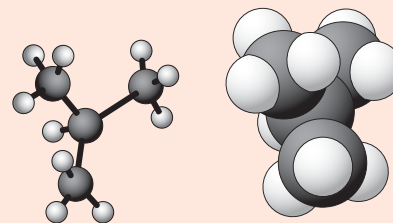

Figure 7.5 ▲
- 1 a) Write the empirical, molecular, structural, displayed and skeletal formulae of the hydrocarbon in Figure 7.5.